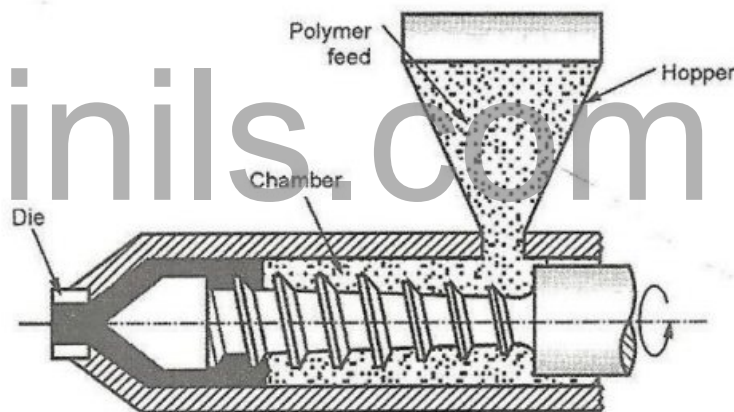

Figure 5.10.Extrusion
- The extruder is equipped with a screw that blends and conveys the material into a heated die. Refer figure 5.10.